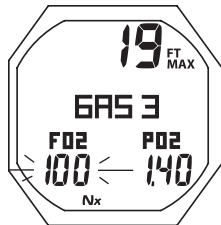

Fig. 38 - SET FO2 GAS 3
**Set FO2 Gas 3**, information includes (Fig. 38):